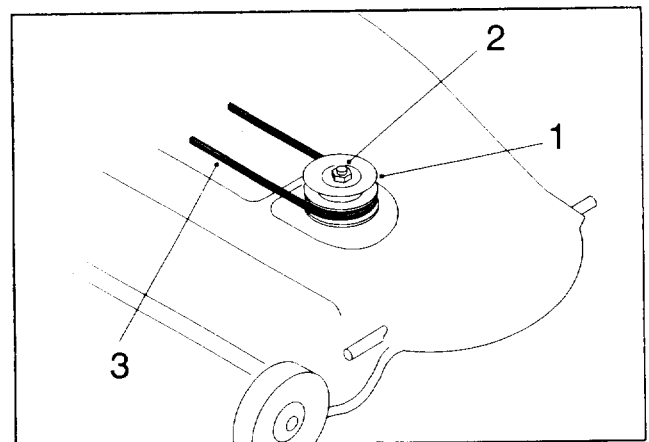

Figure 2
5. Slide the new double pulley onto the pulley shaft and secure it in place with a $\frac{5}{8}$ " lock washer and nut (Fig. 2). Make sure the word "TOP", stamped into smaller pulley, faces up. Tighten the nut to 60–80 ft-lb.
6. Install the existing mower belt by rotating it over the top pulley and onto the bottom pulley (Fig. 2).